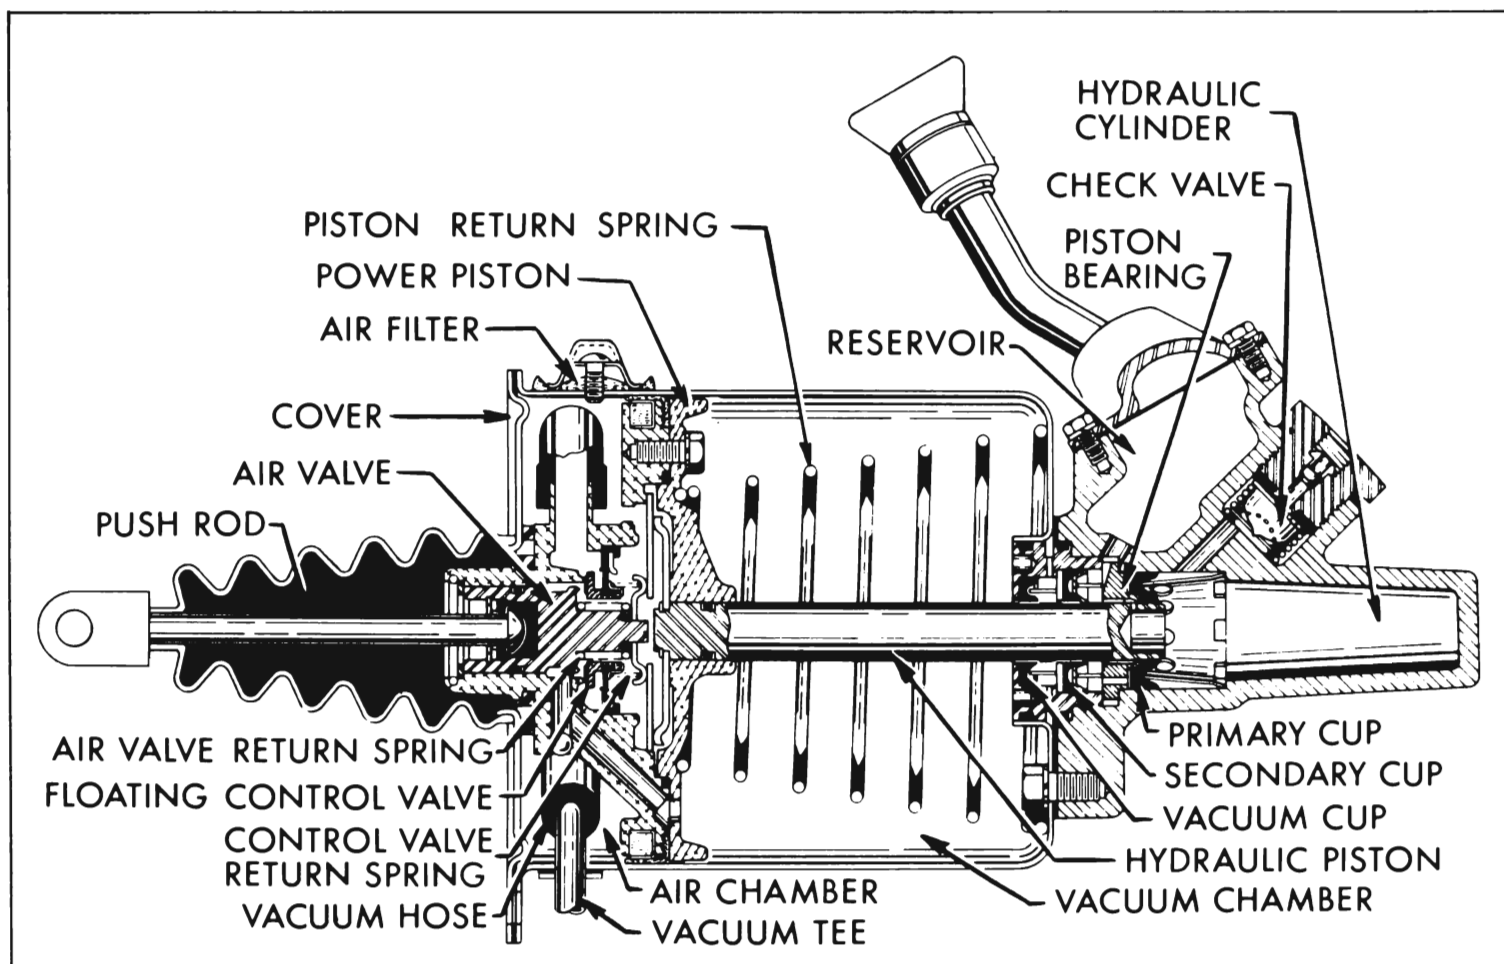

Figure 9-13—Power Brake Unit—Released Position
As shown in figure 9-13, a cover closes the forward end of the cylinder housing to form a large chamber in which the power piston and related parts operate. The section on the cover side of the piston is called the *air* chamber since it is open to atmospheric pressure at all times. The section on the opposite side of the piston is called the *vacuum* chamber since it is subjected to manifold vacuum during power application of brakes. All air entering the cylinder housing passes through an air filter.
(1) *Released Position.* See figure 9-13. The air valve return spring holds the push rod and attached air valve so that the air valve is held
pheric pressure, the piston return spring forces the power piston and related parts rearward to the unapplied position (fig. 9-13).
**NOTE:** Refer to figures 9-13 thru 9-16 for identification of parts not shown in figures next to overhaul steps.